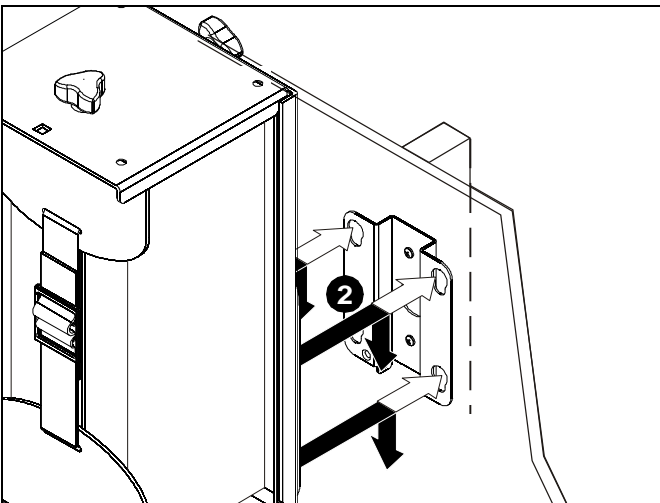

Figure 13
2. Insert mounting buttons into the four large mounting holes on the bracket. (See Figure 13)